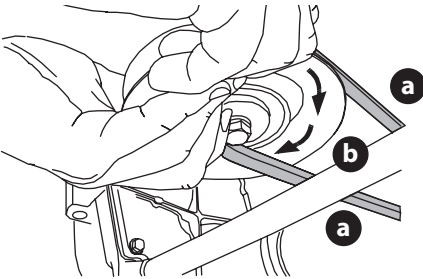

Fig. 38
- While still holding the PTO belt (a) downward, continue turning the PTO pulley (b) until the PTO belt (a) is rolled off the PTO pulley (b) (Fig. 38).
8. Pull the right side of the PTO belt rearward and place the narrow V-side of the PTO belt into the PTO pulley (Fig. 38 on page 29).
9. While holding the PTO belt and PTO pulley together, rotate the PTO pulley to the left (Fig. 38 on page 29). Continue holding and rotating the PTO pulley and PTO belt until the PTO belt is fully rolled into the PTO pulley.